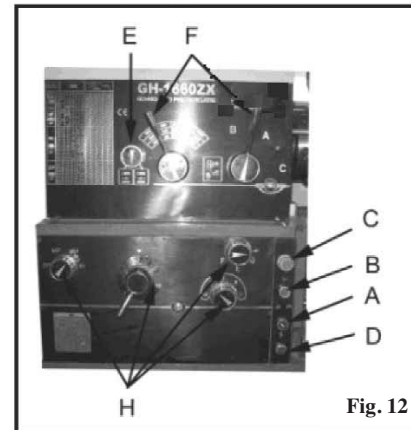

Fig. 12
- Coolant On-Off Switch:** (A, Fig.12) turns coolant pump on and off.
- Power Indicator Light:** (D, Fig.12) Lit whenever lathe has power.
- Emergency Stop Switch:** (C, Fig.12) Depress to stop all machine functions. (Caution: Lathe will still have power). Twist clockwise to reset.
- Jog Switch:** (B, Fig.12) Quickly depress and release to rotate the spindle.
2. **Headstock Gear Change Levers:** (F, Fig.12) Located on front top portion of headstock. Move levers left, or right to desired spindle speed.
3. **Leadscrew/Feed Rod Directional Lever:** (E, Fig.12) Located on front of headstock at left and lower section. Changing knob changes direction of feed. (Caution: Do not move knob while machine is running.)
4. **Feed/Lead Selector Lever:** (H, Fig.12) Located on front of headstock. Used whenever setting up for threading or feeding.